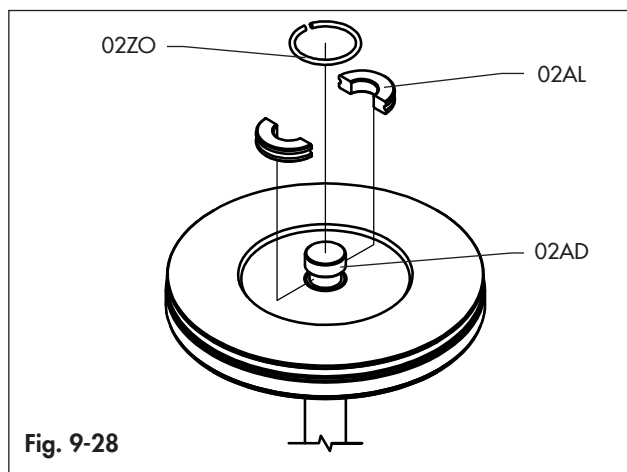

Fig. 9-28
- Remove the spring clip (02ZO) with a proper plier and remove the sector retainers (02AL) from the shaft (02AD). (Fig. 9-28).